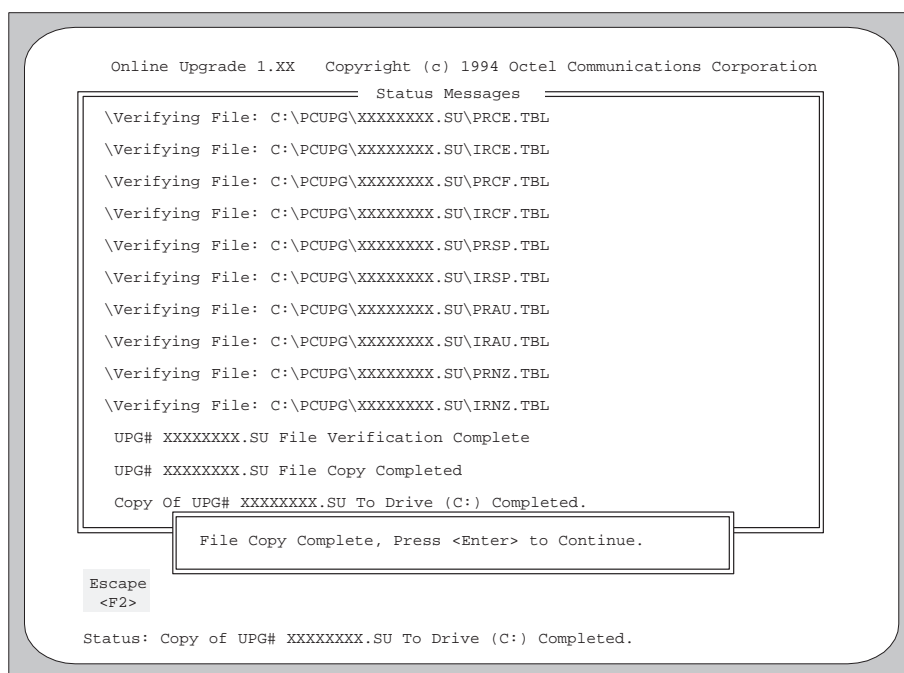

Figure 13-12. Status Messages Screen With File Copy Complete Message.
6. Remove disk #1 and insert disk #2 in the diskette drive, and press **Enter**. Continue copying diskettes, as instructed. After all diskettes have been copied, the **File Copy Complete, Press <Enter> to Continue.** prompt appears in the prompt box on the Status Messages screen, as shown in Figure 13-12.